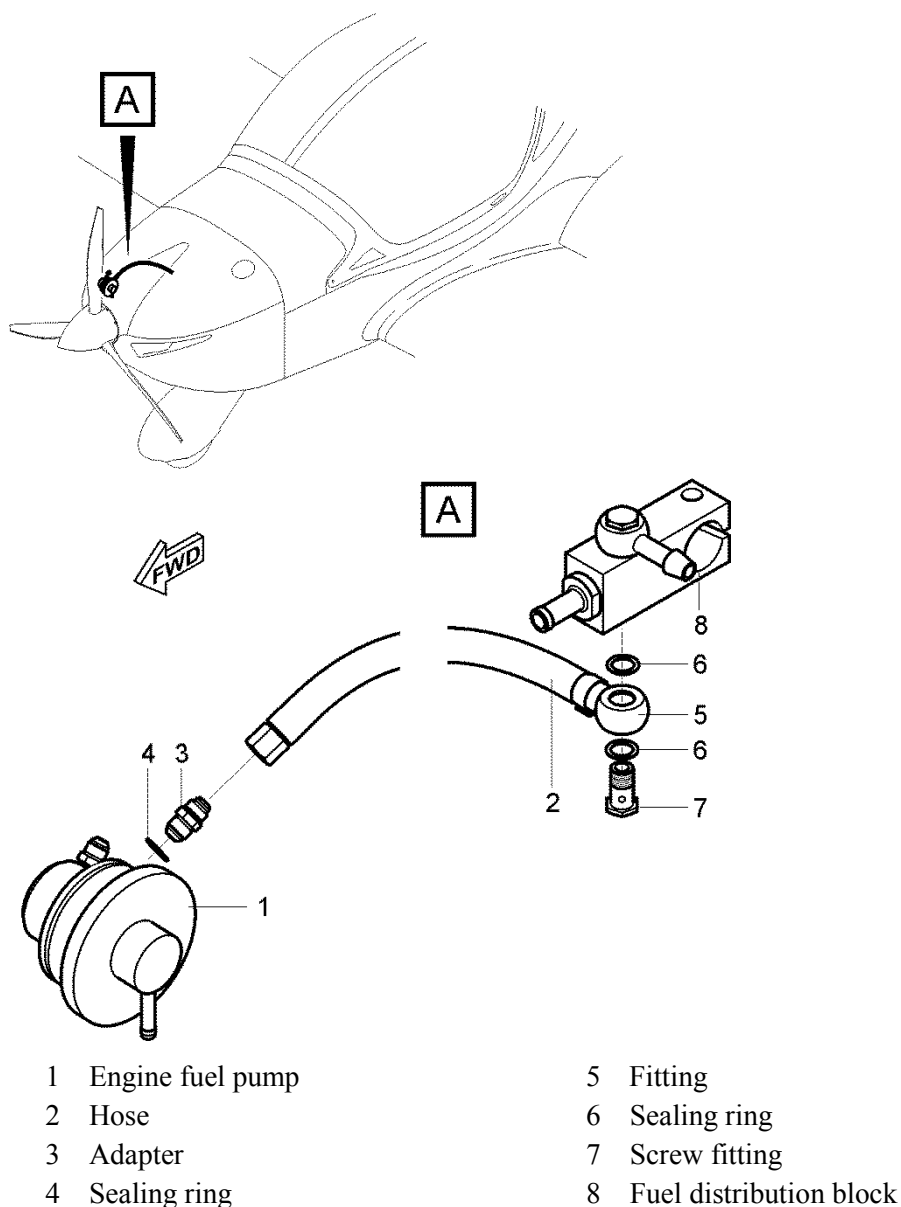

Fig. 1 – Hose removal
- 1.3.1.3 Cut off the cable ties securing the hose (2, Fig. 1) to the other parts.